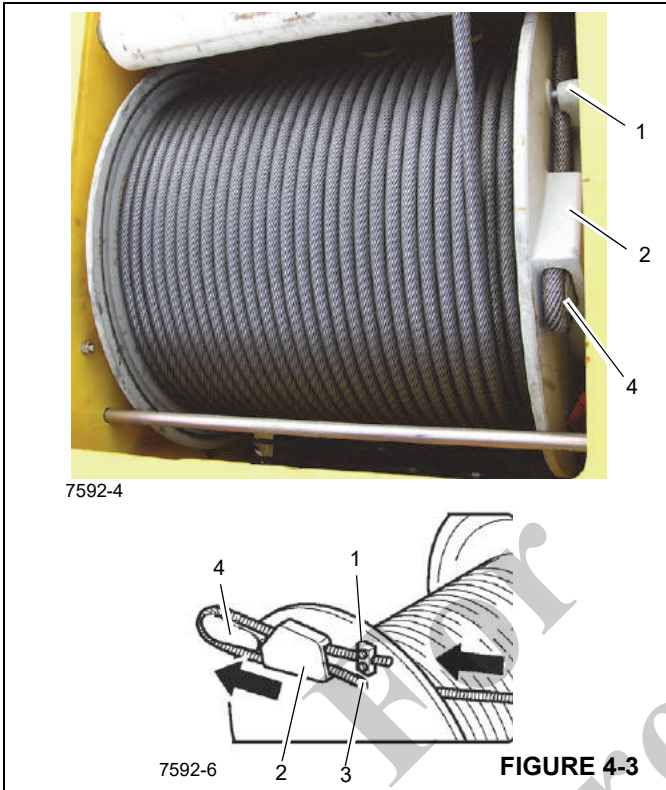

FIGURE 4-3
5. Remove the clamp (1) (Figure 4-3).
6. Push the cable through the hole (3) (Figure 4-3) until the cable wedge (4) slides out of the pouch (2).